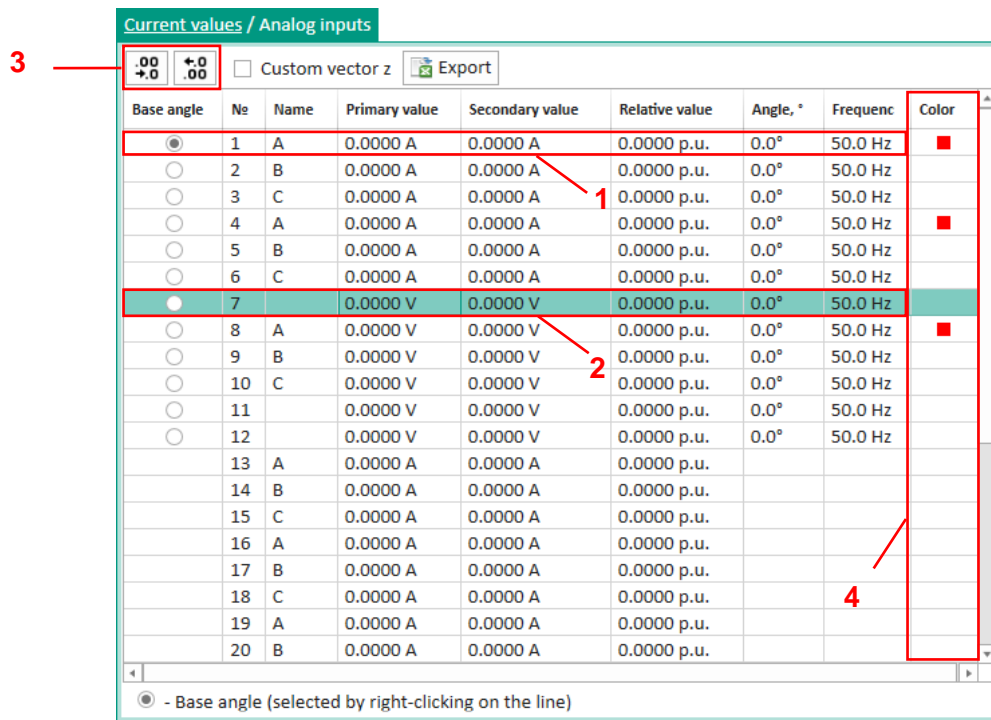
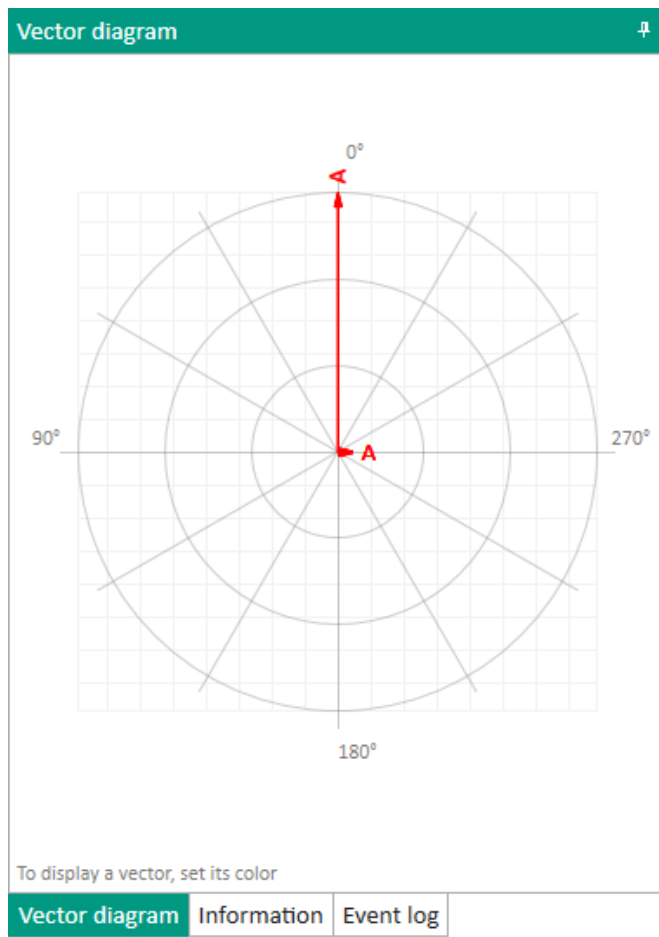

Figure 39 – Analog inputs window
Figure 40 – Phasor diagram tab
The **Analog inputs** window (figure 39), device tree menu **Actual values** → **Analog inputs**, is designed to display the actual values of analog inputs (circuits). The **Analog inputs** window consists of a table of measurements of circuit values and an additional window of phasor diagram.
By clicking the right mouse button on the required analog measurement, the base phasor (figure 39, item 1) is selected in the tab, relative to which current values of the angles of other phasors are calculated. When you press the left mouse button in the tab, other analog measurements are highlighted in green (figure 39, item 2). It is possible to decrease or increase the digit capacity of values using buttons
(figure 39, item 3).
The phasor diagram is located on the right side of the **Analog inputs** window. Using button  it is possible to control location of the open **Phasor diagram** tab (figure 40) on the page. To display a phasor on a phasor diagram, you need to set a color for it (figure 39, item 4).